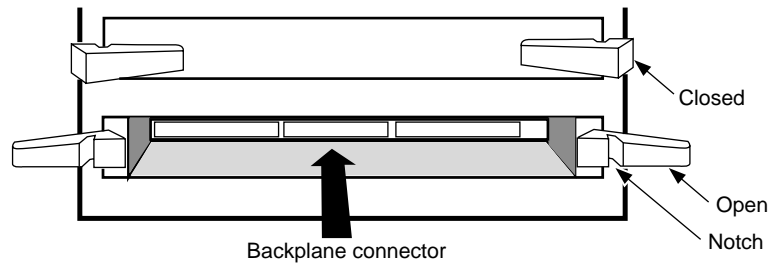

Figure 2-3 View of Open and Closed I/O Slot Ejector Handles
- a** Make sure the slot ejector handles are in an open position, as shown in Figure 2-3.
Figure 2-3 shows ejector handles in open and closed positions.